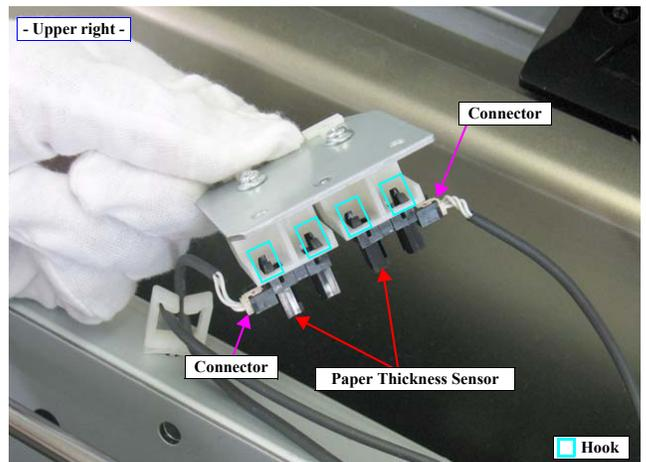

Figure 4-83. Removing the Paper Thickness Sensor
10. Disconnect the connectors from the Paper Thickness Sensors. See Figure 4-83.